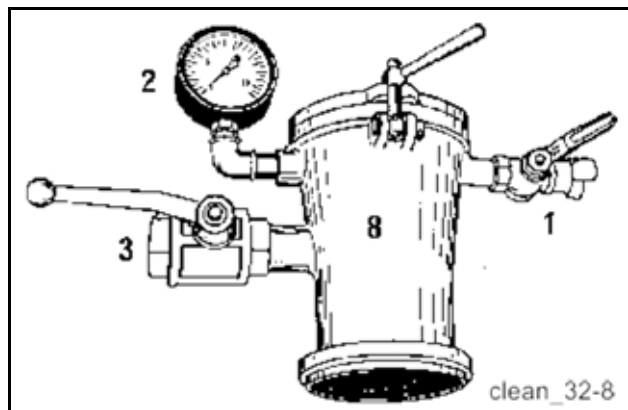

Fig. 250 Cleaning head
7. The cleaning head must be equipped with a functioning pressure gauge (2) and a large-dimensioned blow-out cock (3) (**Fig. 250**).
10. Only work on unpressurised pipelines. Open blow-out cock (3) (**Fig. 250**). Concrete emerging under pressure can injure persons.